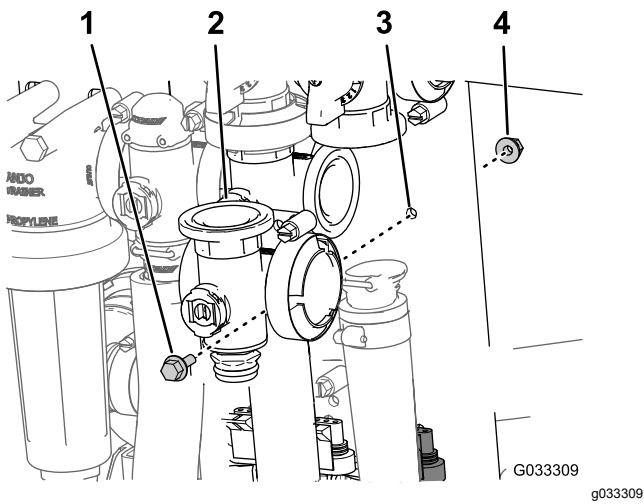

**Figure 71**
1. Remove the clamps and gaskets that secure the manifold for the master-section valve (Figure 71) to the master-section-bypass valve, agitation valve, and master-section-manifold valve (at the end of the hose for the flow meter).
2. Remove the retainer that secures the outlet fitting to the manifold for the master-section valve (Figure 71).